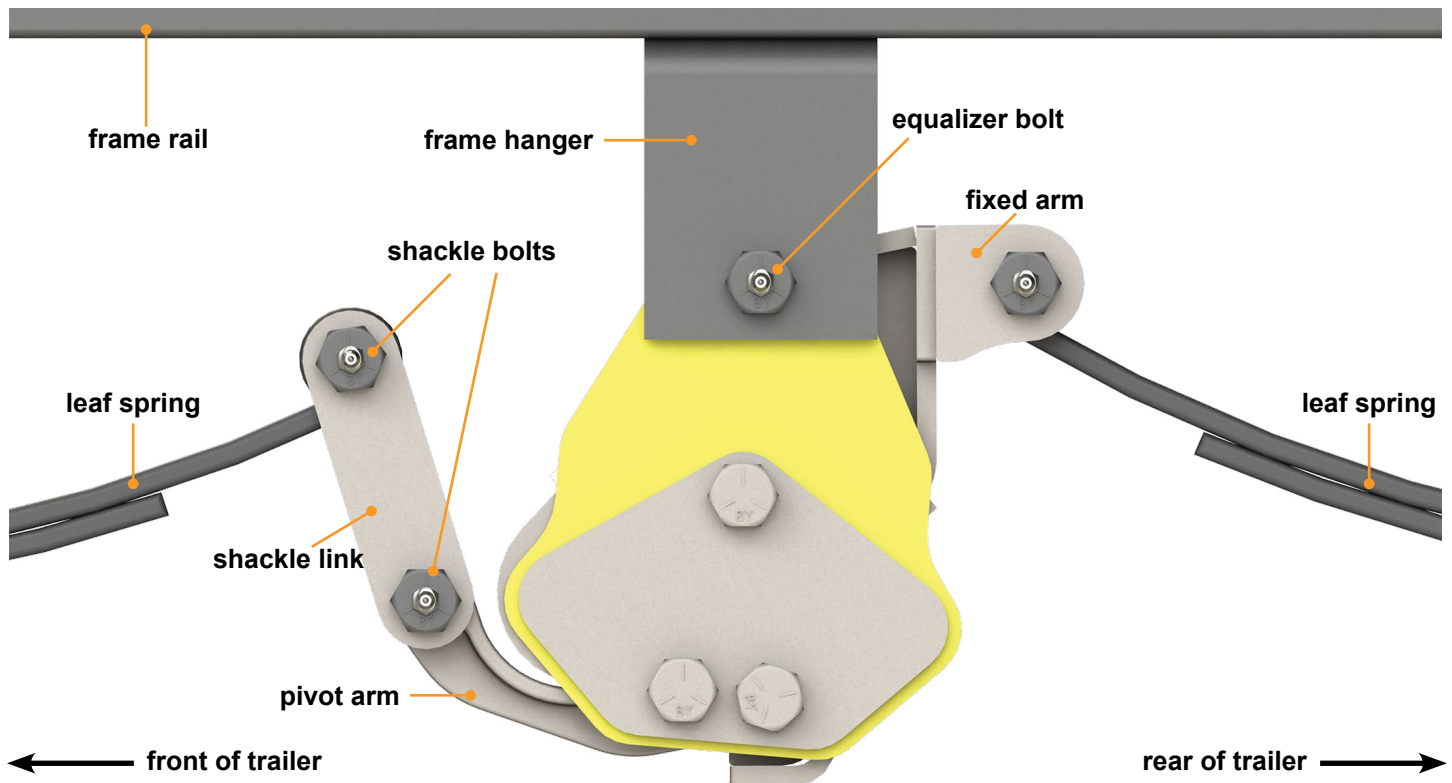

Fig.4
1. Install the triple axle equalizer on the roadside frame hanger with the fixed arm (**Fig.4**) facing the rear of the trailer and the Equa-Flex logo facing outward.